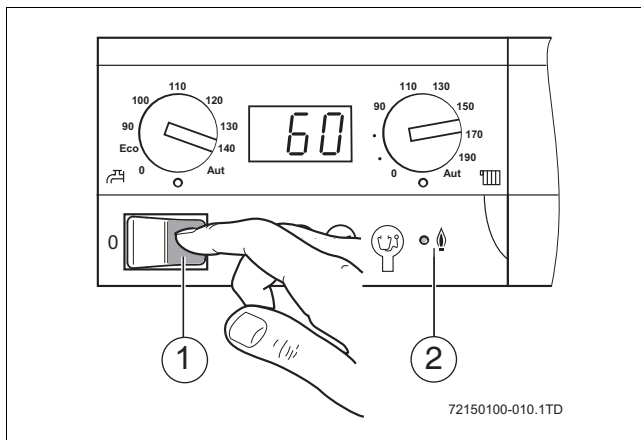

Fig. 11
- ▶ Switch on the heating system by setting the main switch  to position "1" (→ fig. 11, page 7).
- ▶ Switch on the heating system using the main switch (→ fig. 11).